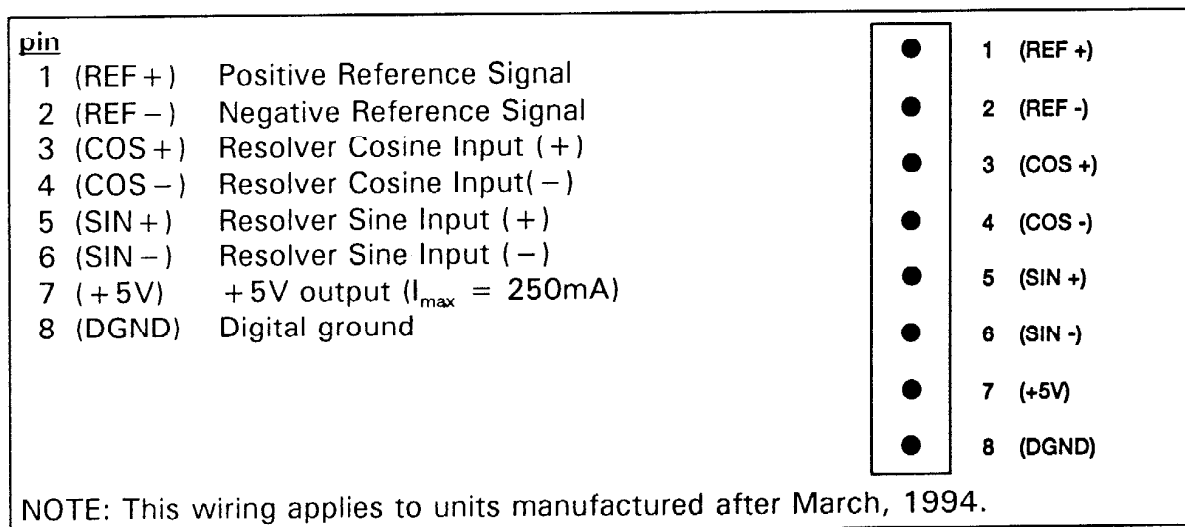

Figure 3-3 Resolver Connector X3
All Signal wiring for the SBSC 1000/1100 need not be larger than 20 AWG or equivalently rated wire. All signal wiring connections are made to Connectors X3, X4, X5, and X6 (Refer to Figures 3-3 to 3-6).
- Connect pins 1-6 from Connector X3 to the motor's Resolver output. (Refer to Figure 3-3).